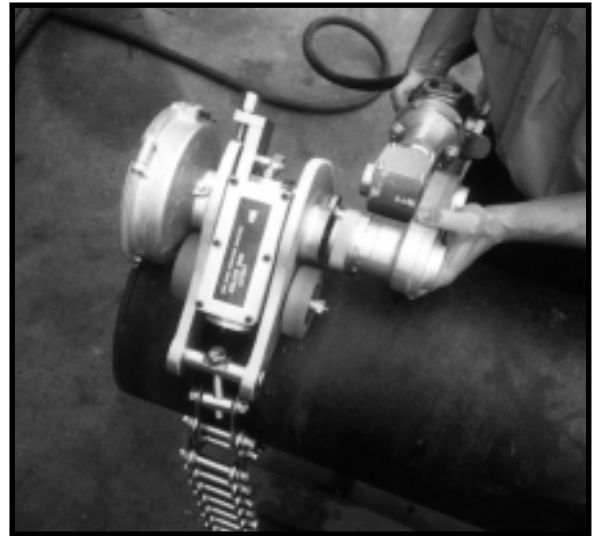

FIGURE 6
9. Install drive motor by lining up hex and inserting the shaft in the housing. Tighten by hand knurled lock ring and attach power supply (Figure 6)